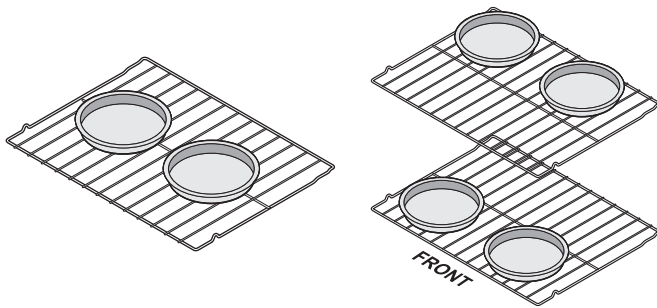

Figure 13: Pan spacing recommendations
- For best results when baking layer cakes using 2 oven racks, place bakeware on rack positions 2 and 4 See Figure 13.